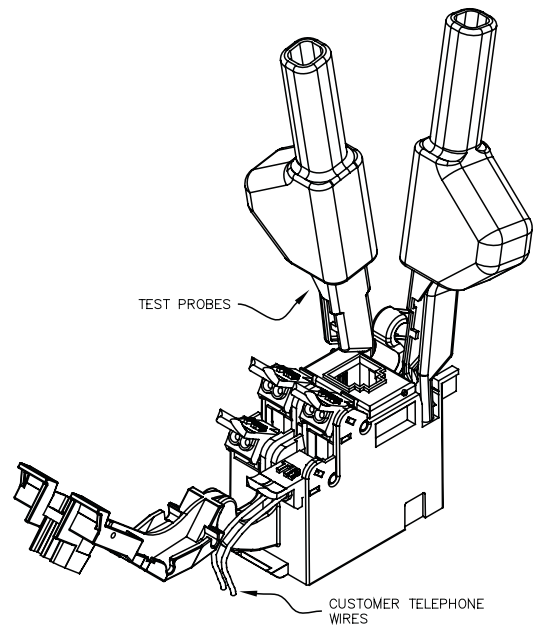

Figure 3
3. Using an ohmmeter, insert test clips into test ports as shown (See Figure 3).